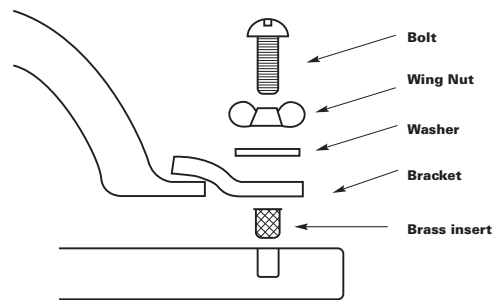

Figure C-8
- Locate the holes 25 mm from the side edges of the bowl flange and away from the bowl's front and back edges to allow clips to clear the cabinet frame (Figure C-8).
- Assemble the undermount hardware (Figure C-8).